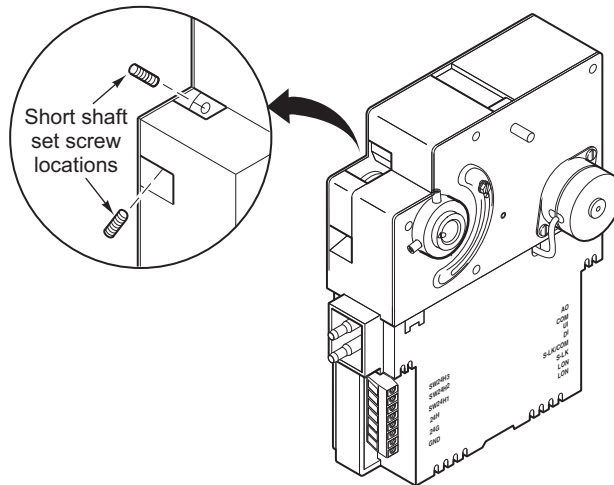

Figure-3 Short Shaft Set Screw Location.
2. Press manual override button and turn actuator collar to full counterclockwise position until short shaft set screw holes are accessible (Figure-3).